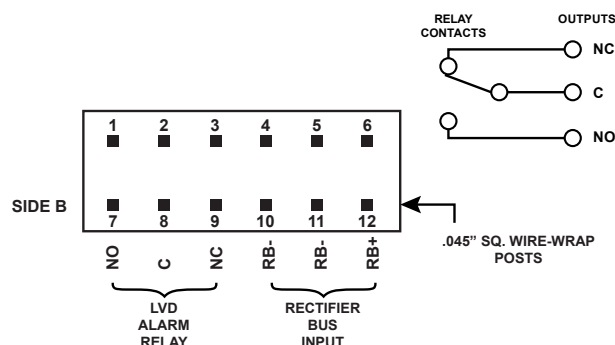

Figure 7. Wire-Wrap Terminal Connections
- 12.1** The centre of the back panel has connections to the Form C relay contacts for connection to external audible or visual alarm circuits; see Figure 7 below.